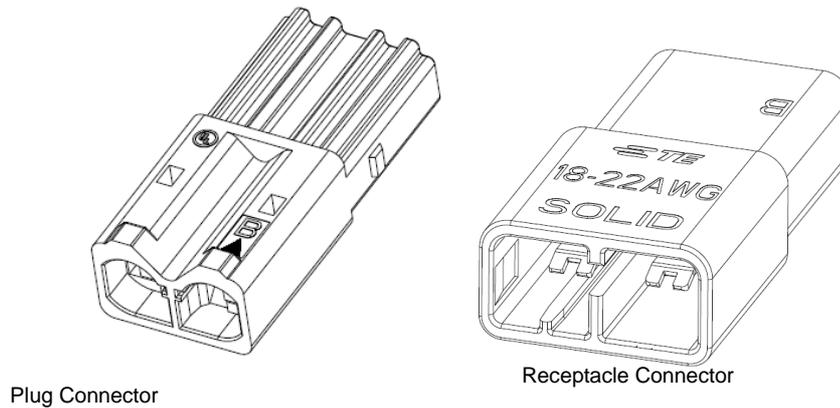
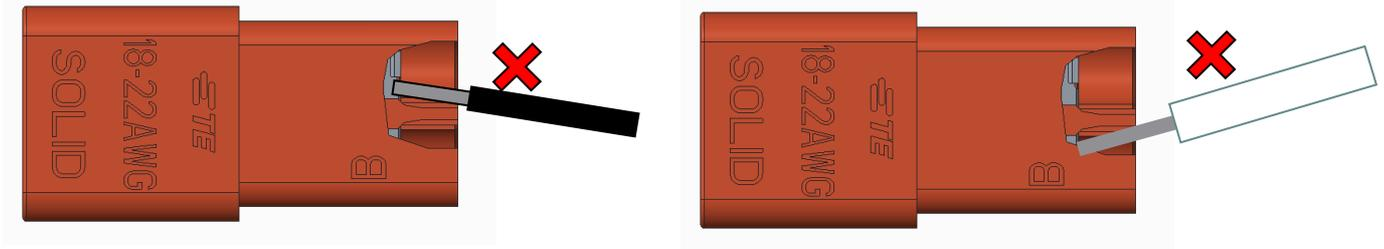
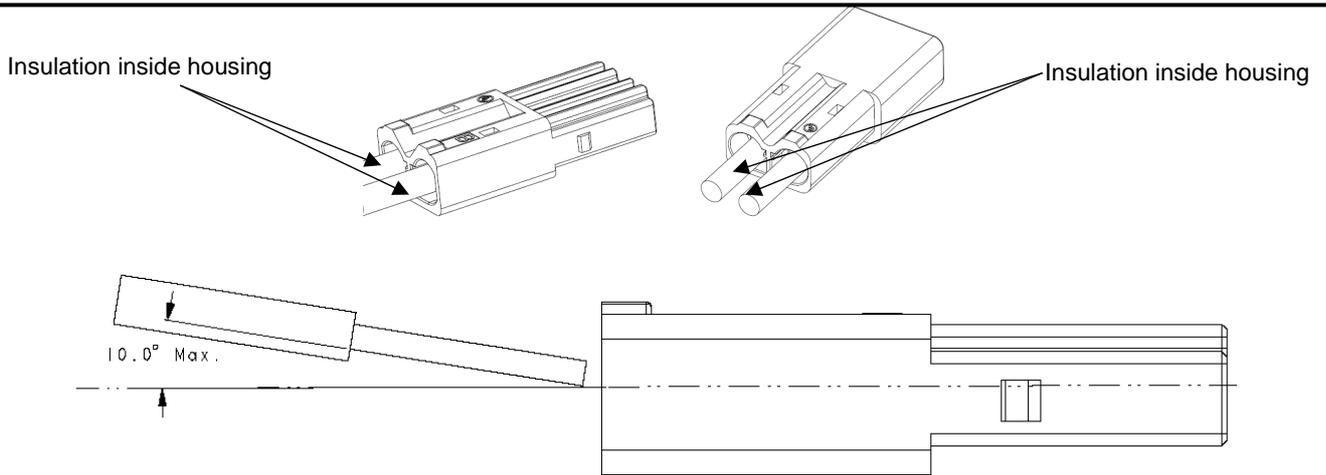

Figure 1
Figure 3
Figure 4
When corresponding with TE Connectivity Personnel, use the terminology provided in this specification to facilitate your inquiries for information. Basic terms and features of this product are provided in Figure 1.
3. Insert each stripped wire into a poke-in slot in the back of the plug or receptacle until bottomed. During the insertion process, make the tip of wire touch on the lead in feature and insert the wire with an angle as shown on Figure 3. The maximum allowed insertion angle in vertical direction is 10° (Figure 4). For field wiring, black wires must be inserted into corresponding slot marked “B”, and the white wires inserted into the other slot. The “B” (Black) wire insertion slot is also indicated by a black mark on the side of the housing. See Figure 1.